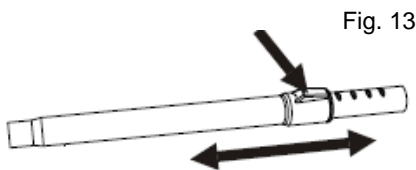

Fig. 13
**Adjustable Tube:** Adjust the tube to the desired length by pushing the control switch. Release the button to lock (Fig. 13).